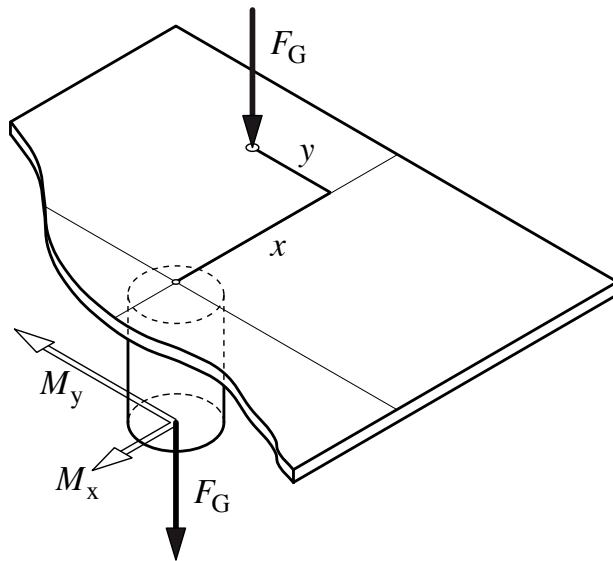

Figure 3-4: Effective forces in eccentric loading
- Eccentricity: A custom weighing platform has to be designed so that its center of gravity lies at the load application point or as close as possible. Failing to do that might lead to an additional bending force on the load application point, which can damage the weigh module over the long term (See Figure 3-4). This effect can only be understood after a high number of load cycles, when the weigh module gets broken due to fatigue failure. To avoid that, concentric weighing platforms have to be used as much as possible